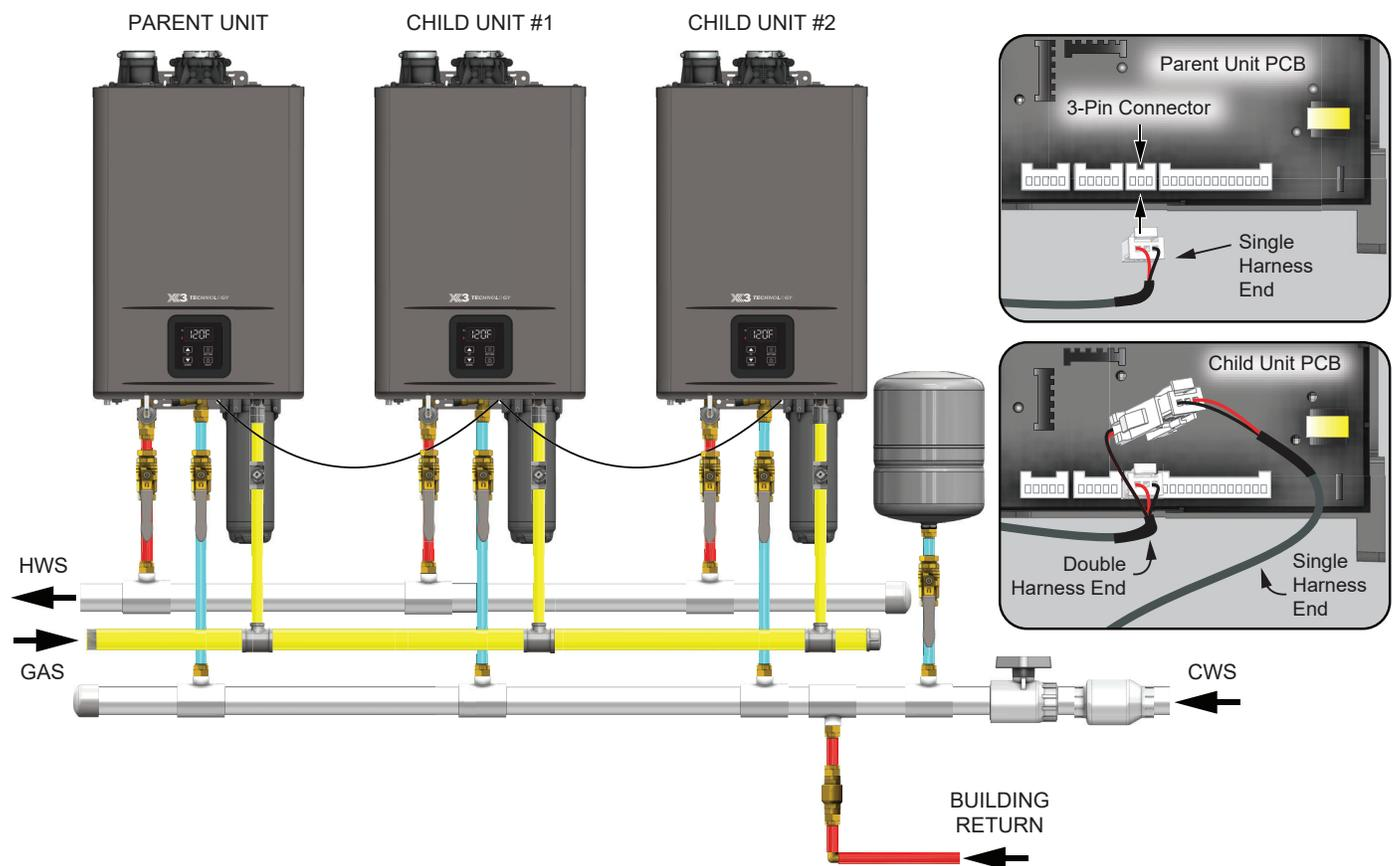

Figure 44 - Multi Unit Cascade Configuration
- 1** The Cascade system should be configured with the Parent water heater as either the first or last in the series of water heaters connected to the cold water supply. The Child units will follow sequentially. See Figure 44.
- 7** Use Figure 44 as a reference to locate the connection point for the Parent Cascade Unit. Use the single harness end of the Cascade Linking Cable to make the initial connection.
- 9** If more than one Child water heater is used then route the single harness end of the second Cascade Linking Cable through the rubber grommet on the bottom of the first Child water heater and connect it to the open harness on the first Cascade Linking Cable as shown in Figure 44.